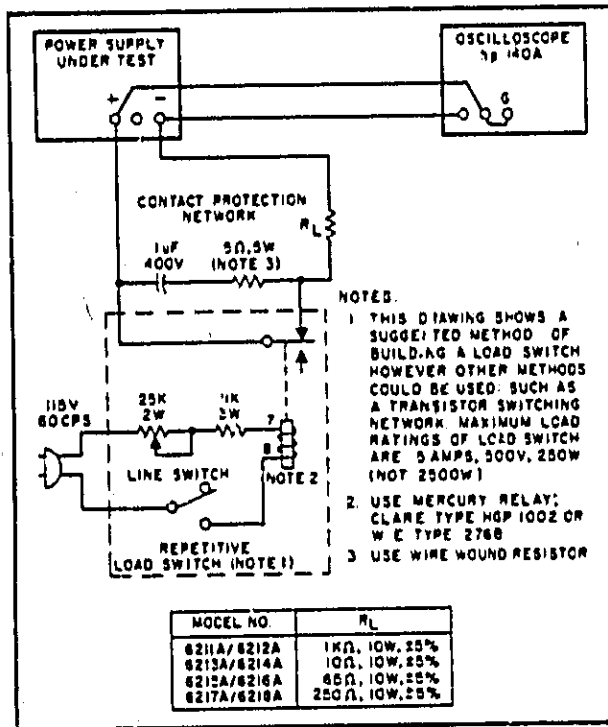

Figure 5-7. Transient Recovery Time, Test Setup
5-37 A mercury-wetted relay, as connected in the load switching circuit of Figure 5-7 should be used for loading and unloading the supply. When this load switch is connected to a 60Hz AC input, the mercury-wetted relay will open and close 60 times per second. Adjustment of the 25K control permits adjustment of the duty cycle of the load current switching and reduction in jitter of the oscilloscope display.
5-38 The maximum load ratings listed in Figure 5-7 must be observed in order to preserve the mercury-wetted relay contacts. Switching of larger load currents can be accomplished with mercury pool relays; with this technique fast rise times can still be obtained, but the large inertia of mercury pool relays limits the maximum repetition rate of load
- Connect test setup shown in Figure 5-7